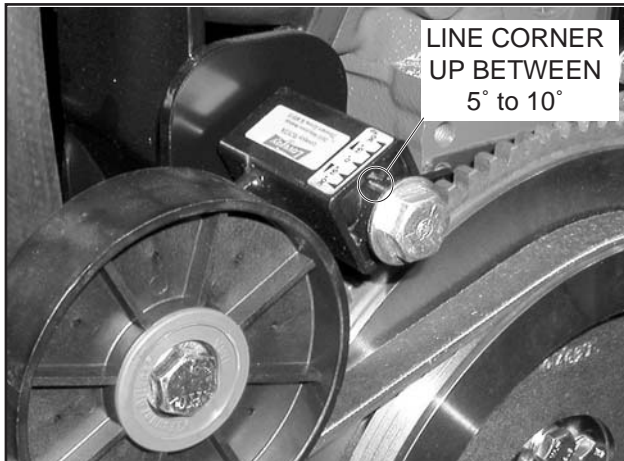

Figure 8-6. – Position of Drive Belt Tensioner
3. Belt tension should be between 5-10° (see Figure 8-6). When the proper tension is achieved, tighten the mounting bolt to 49 ft-lbs.